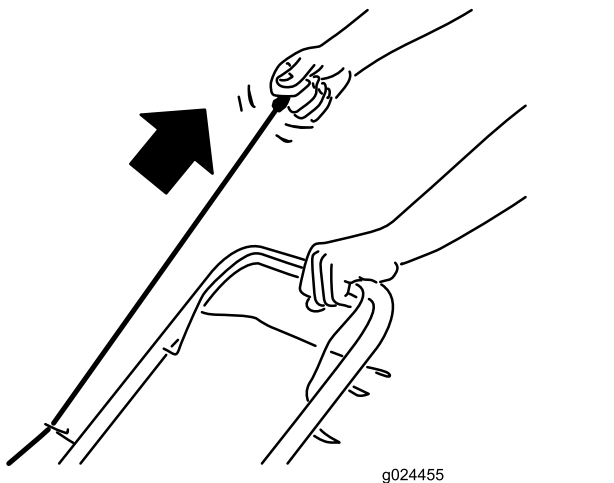

Figure 15
2. Pull the recoil-start handle (Figure 15) lightly until you feel resistance, then pull it sharply, and allow it to return to the rope guide on the handle slowly.